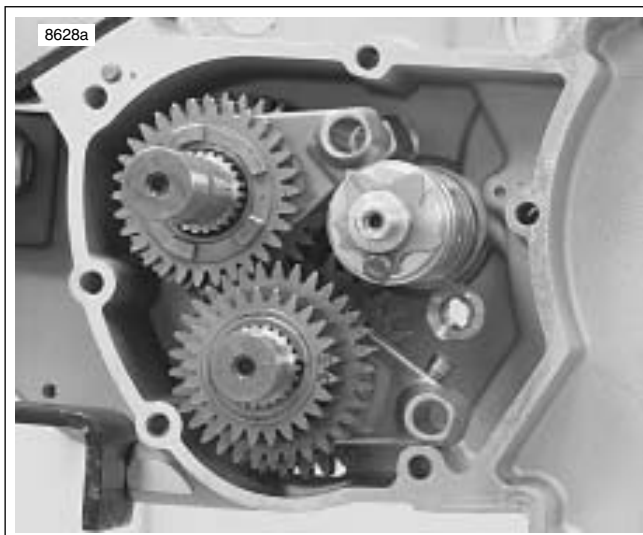

Figure 6-55. Transmission Assembly
2. See Figure 6-55. Remove shifter drum and shifter forks.